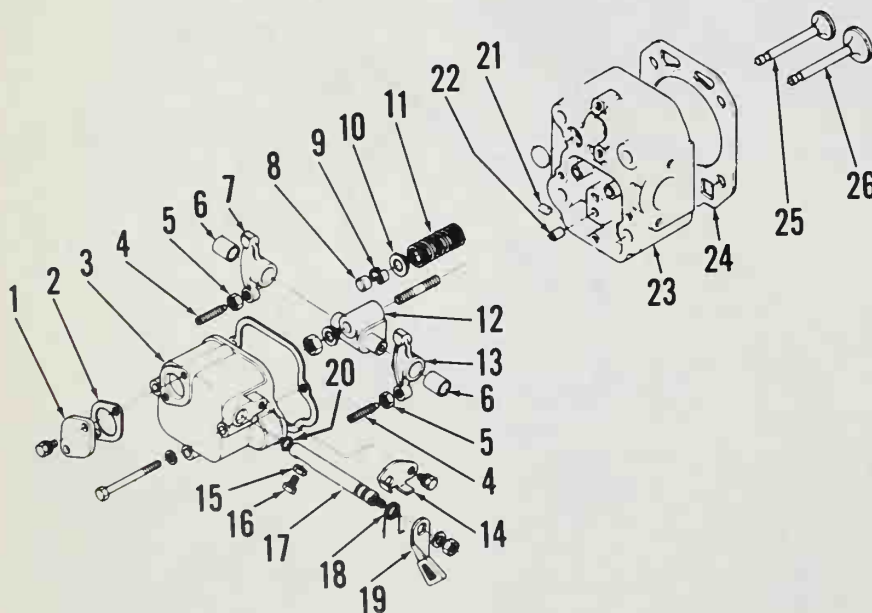
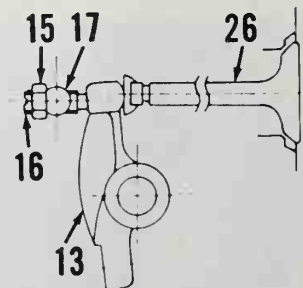

Fig. K1-7—Exploded view of cylinder head.
Fig. K1-8—Loosen locknut (15) and turn adjusting screw (16) to adjust compression release. See text.
All models are equipped with a compression release which holds the exhaust valve open slightly when compression release lever (19—Fig. K1-7) is rotated. To adjust compression release, rotate engine crankshaft so piston is at top dead center on compression. Remove cover (1), loosen locknut (15—Fig. K1-8) and back off adjusting screw (16). Rotate compression release lever to engaged position. Turn adjusting screw (16) in until it contacts exhaust rocker arm (13), then turn screw 1½ additional turns. Tighten locknut and check operation of compression release.
R&R AND OVERHAUL. Drain coolant, remove muffler and disconnect fuel return line from injector. Disconnect both ends of high pressure fuel line. Remove air cleaner and intake pipe. Remove rocker cover (3—Fig. K1-7) then unscrew rocker stand retaining nut and remove rocker arm assembly. Unscrew cylinder head retaining nuts and remove cylinder head.
Rocker arm bushings (6—Fig. K1-7) are renewable. Bushing ID should be 14.002-14.050 mm. Diameter of rocker stand (12) shafts should be 13.973-13.984 mm. Maximum clearance between shaft and bushing is 0.15 mm.